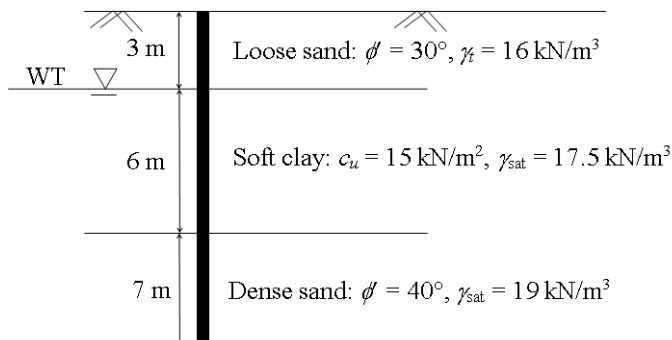

Fig. 1
3. (a) Determine the allowable pile load capacity of the 50 cm diameter driven concrete pile (Fig. 1) for a factor of safety of 2.5. [Given: $N_q = 120$, $N_\gamma = 109.41$, $\alpha = 0.95$, $\delta/\phi = 1$].